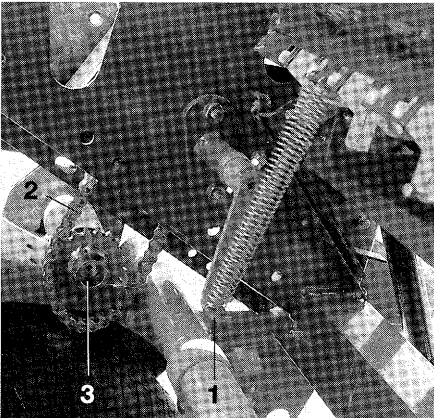

Fig. 25
-  To slacken the drive chain press the lever downwards (Fig. 25/1) and place drive chain of seed drill around the sprocket (Fig. 25/3) of the tyre packer.